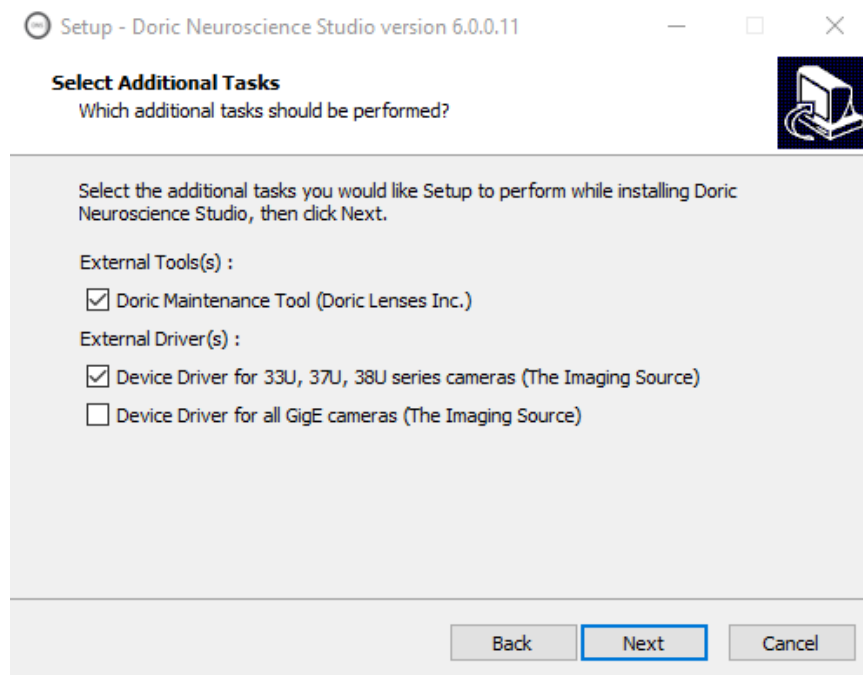

Figure 4.4: Successful Installation of the Doric Neuroscience Studio
9. We recommend installing the **Doric Maintenance Tool**, which can be used to perform future firmware updates if necessary. The **External Driver** for the camera is needed if your setup is used with an external camera. When you have ticked the additional components you want to install in complement of **Doric Neuroscience Studio** (Fig 4.4), click **Next**.